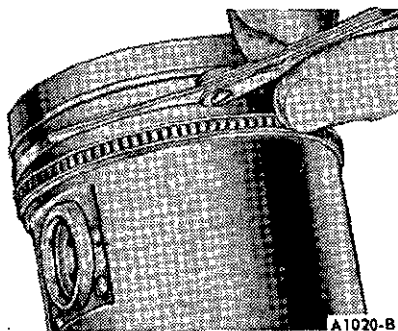

FIG. 31 Checking Piston Ring Clearance
6. Check the ring side clearance of the compression rings with a feeler gauge inserted between the ring and its lower land (Figure 31). The gauge should slide freely around the entire ring circumference without binding. Any wear that occurs will form a step at the inner portion of the lower land. If the lower land have high steps, the piston should be replaced.